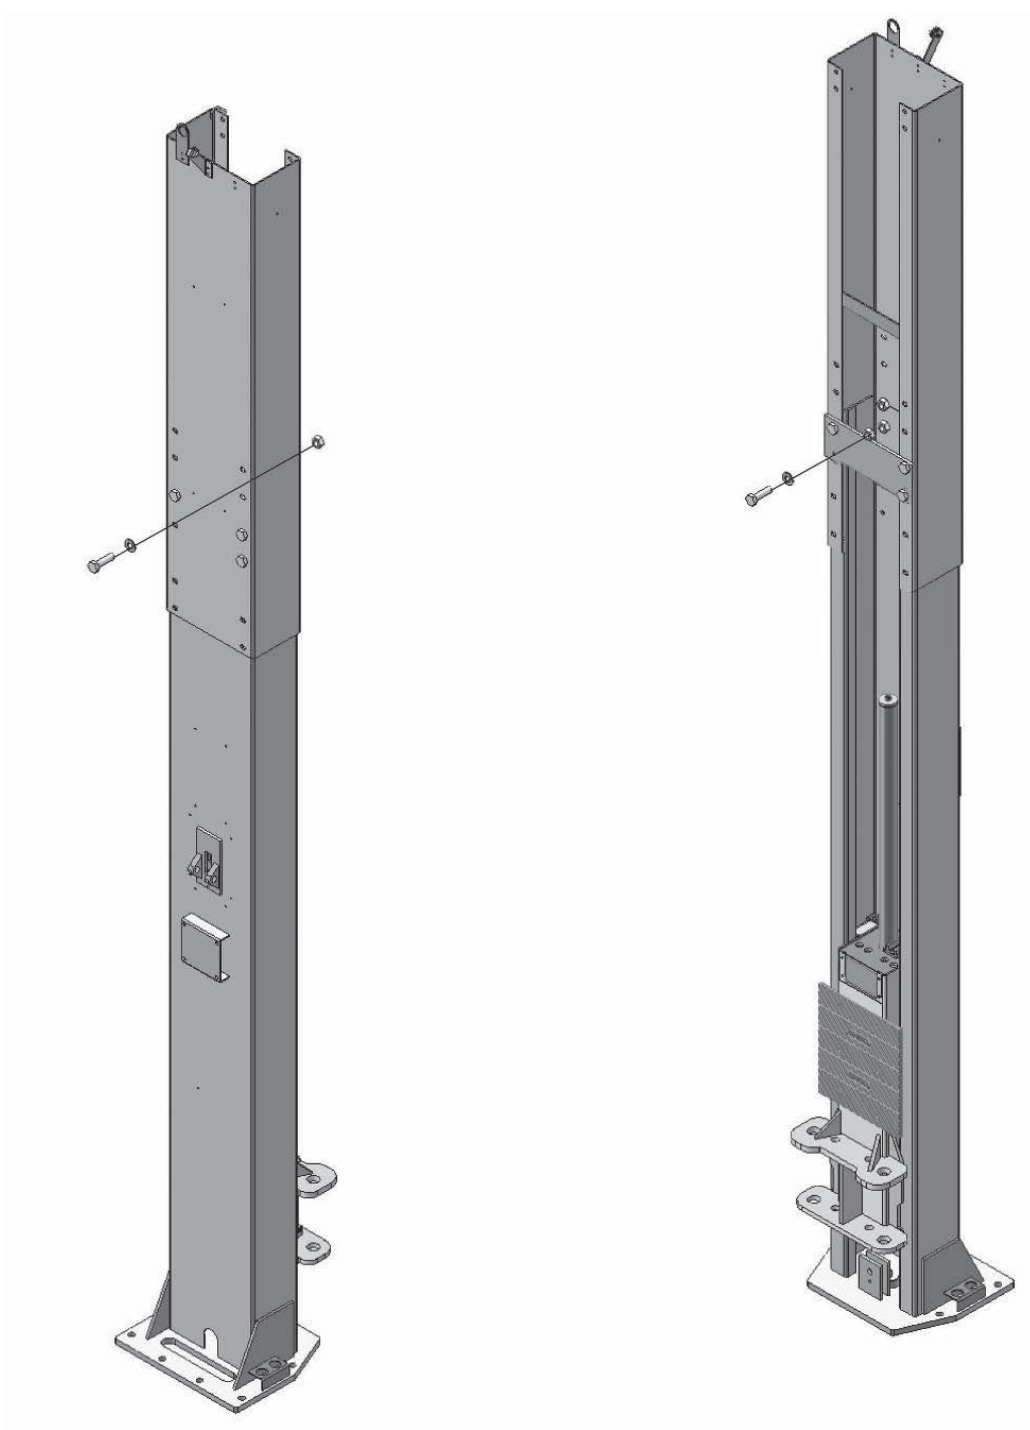

Fig. 18 Low Setting
2. When the ceiling height is over 4200mm (165 3/8") but less than 4500mm (177 1/8"), connect the outer columns to the middle holes (**See Fig.18**).